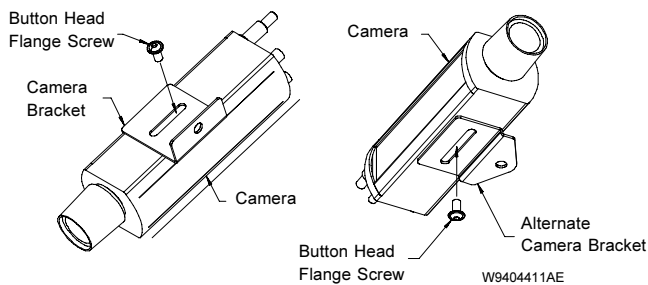

Figure 8: Camera Mounts
- Secure the camera to the mount using the 1/4-20 x 1/2 inch button-head flange screw provided in the hardware kit. See figures 8, 9 and 10.